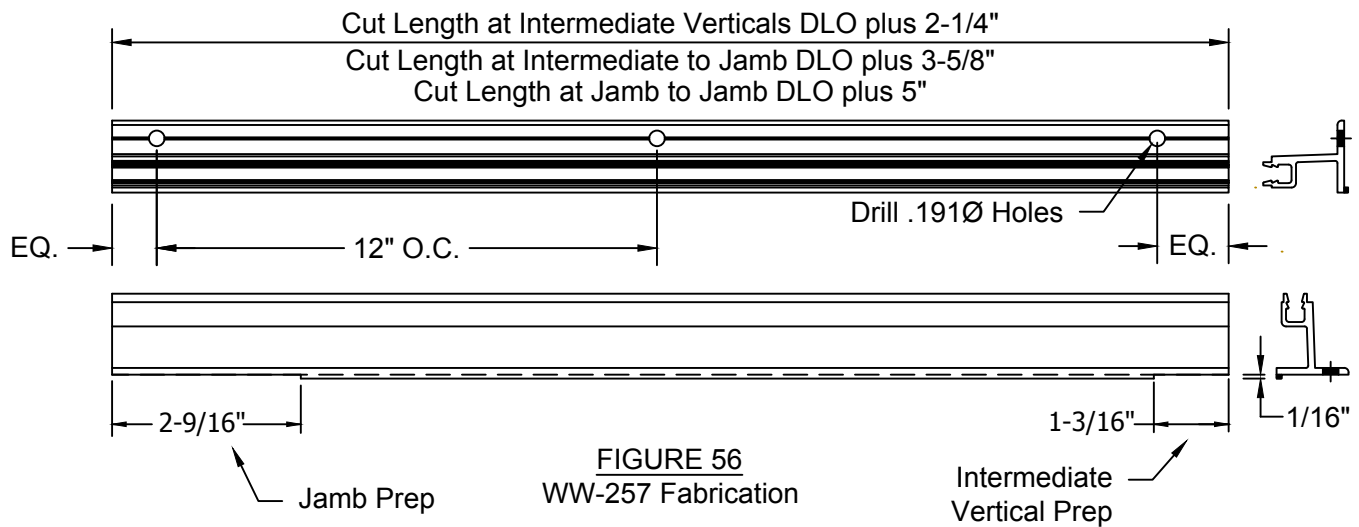
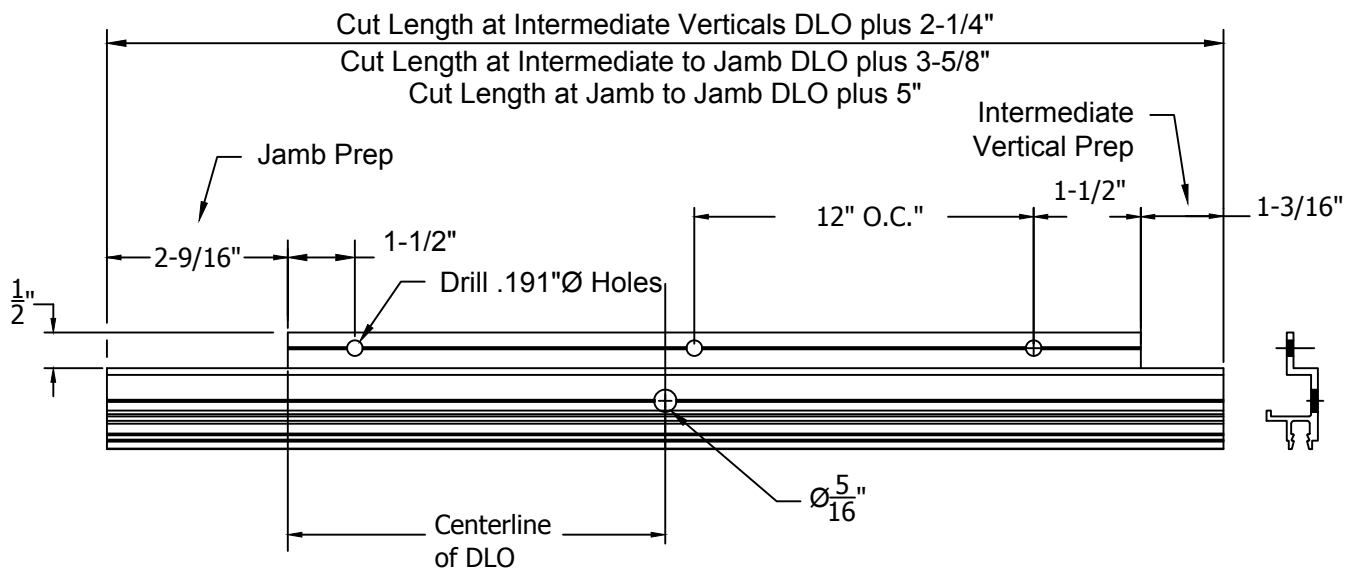

FIGURE 56
FIGURE 57
- 6.4 Bellows gasket retainers, WW-257 & WW-258 will be fabricated to run from mull center to mull center except at jambs. These will be cut to extend full width of jamb mullion. A 1/4" joint will be located between retainers at each intermediate mullion. Retainers will be cut Day Light Opening plus 2-1/2" at jambs and DLO plus 1-1/8" at each intermediate vertical. WW-257 will be notched to clear mullion as shown in FIGURE 56. WW-258 will be notched to clear mullions as shown in FIGURE 57 below. Notch 2-9/16" at Jambs and 1-3/16" at Intermediate Vertical Mullions.
- 6.5 WW-257 upper gasket retainer will be square cut typical , miter as required at corners. Drill #11 (.191) holes at 12" on center. See **FIGURE 56**
- 6.6 WW-258 lower gasket retainer will be square cut typical, miter as required at corners. Drill #11 (.191) holes at 12" on center for attachment. 5/16" dia. weep holes must also be drilled in upper channel at centerline of day light opening. See **FIGURE 57**